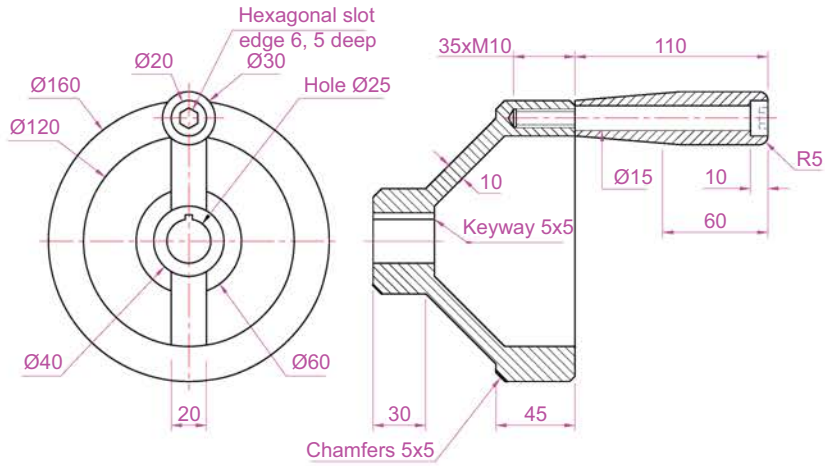

Fig. 19.40 Exercise 10 – details drawing
10. Working to the details shown in Fig. 19.40, construct a 3D model of the parts of the wheel with its handle. Two renderings of 3D models of the rotating handle are shown in Fig. 19.41 – one with its parts assembled, the other with the parts in an exploded position relative to each other.